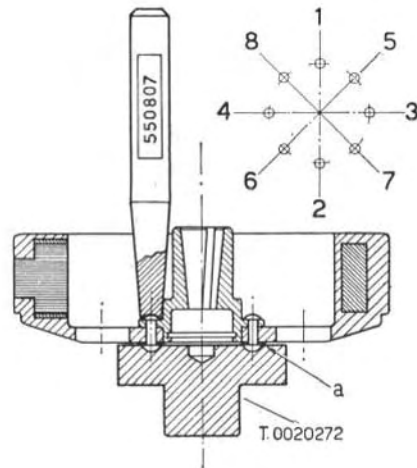

Fig. 92 - Riveting the rotor cam.
3. - Remove washer « a » (see Fig. 92), then push the rivets out by means of the pin punch 550805.
5. - Bore out to 5.5 (.177") the holes of washer « a » mentioned in paragraph 3; mount washer on outer face of rotor, then the cam and $\phi >$ size rivets; clench the latter, following the sequence as indicated in Fig. 92, by means of supporting block T.0020272 and riveting punch 550807.